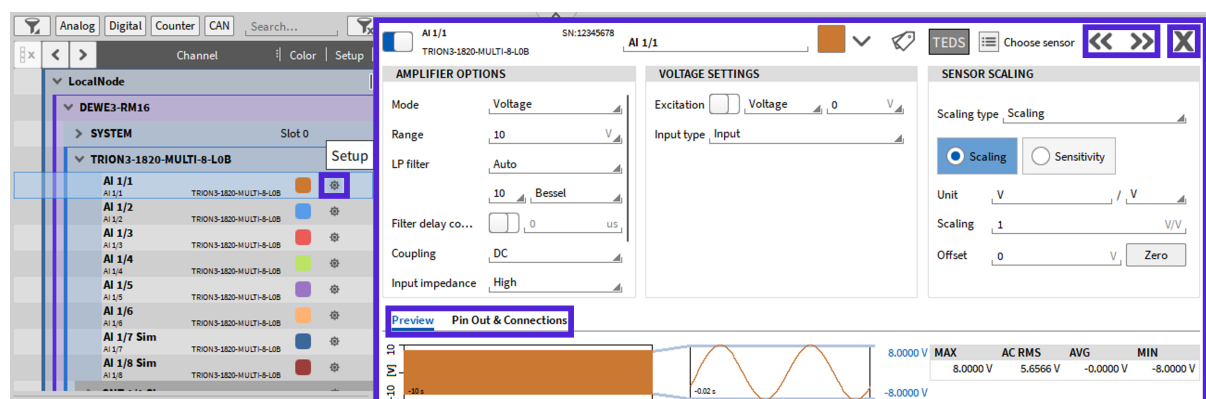

Fig. 7.48: Channel setup of a TRION3-1820-MULTI channel
All channel settings (except the sample rate and the bit resolution) can also be changed in the individual Channel Setup (see Fig. 7.48) which can be accessed via push button ⑩ see in Fig. 7.2 or Table 7.1.